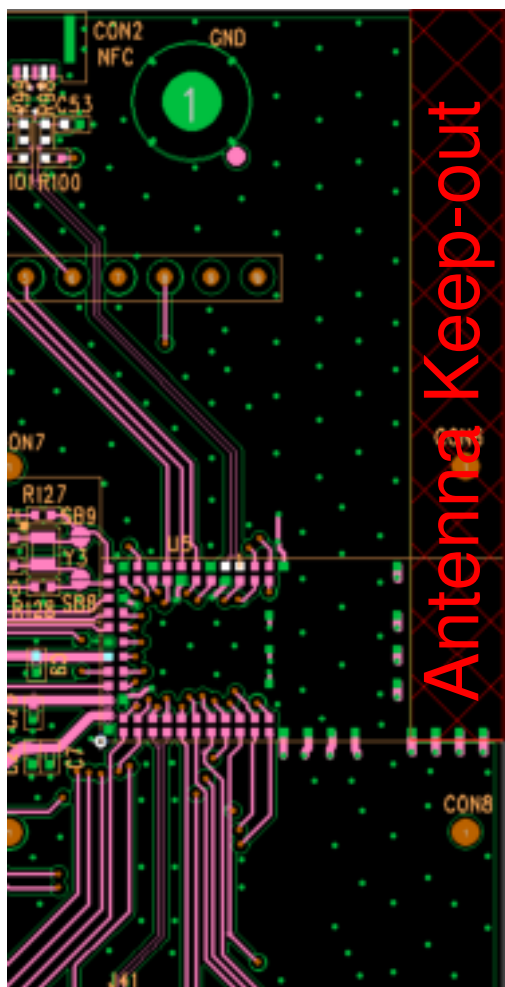

Figure 9: PCB trace Antenna keep-out area (shown in red), corner of the LC840PA development board for the 453-00087 module.
- The LC840PA development board has the 453-00087 module on the edge of the board (not in the corner). The antenna keep-out area is defined by the LC840PA development board which was used for module development and antenna performance evaluation is shown in Figure 9, where the antenna keep-out area is ~5 mm wide, ~39.95 mm long; with PCB dielectric (no copper) height ~1 mm sitting under the 453-00087 PCB trace antenna.
- Host PCB land pattern and antenna keep-out for the LC840PA applies when the 453-00087 is placed in the edge of the host PCB preferably in the edge center. Figure 9 shows an example.